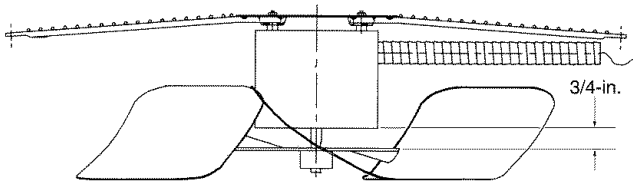

Fig. 29 — Condenser-Fan Adjustment
Condenser-Fan Adjustment (Fig. 29)
3. Adjust fan height as shown in Fig. 29.